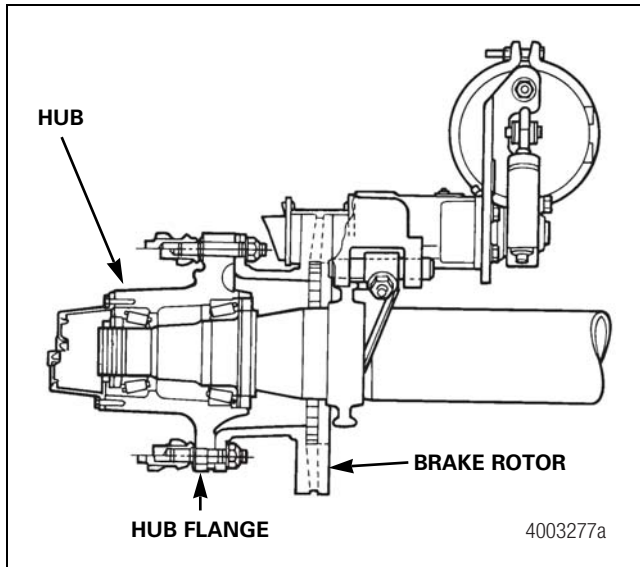

Figure 9.15
- Brake rotors are always mounted inboard of the hub. Therefore, the hub must be removed prior to removing the brake rotor, thus disturbing bearings, seals and lubricant. Figure 9.15. Note, however, that the Meritor Dura-Master® air disc brake design allows brake linings to be replaced without removing the hub. For more information, refer to Maintenance Manual 4M, Air Disc Brakes. To obtain this publication, refer to the Service Notes page on the front inside cover of this manual.